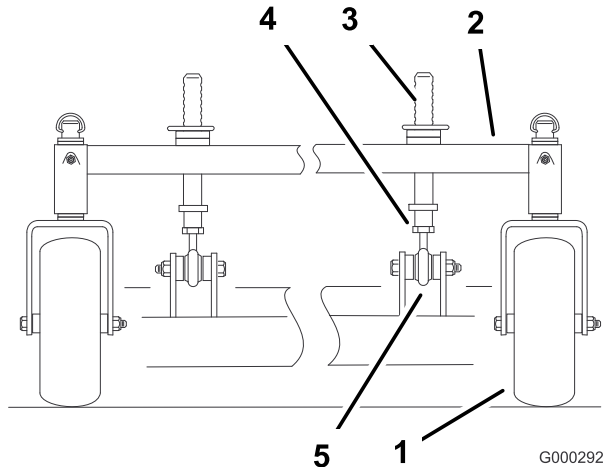

Figure 84
1. To change the front-to-rear pitch, the front height-of-cut posts can be adjusted (Figure 84).
2. To raise the front of the deck, loosen jam nut and rotate the front pin clockwise (Figure 84).
3. To lower the front of the deck, loosen jam nut and rotate the front pin counter clockwise (Figure 84).
6. Tighten the jam nuts (Figure 84).